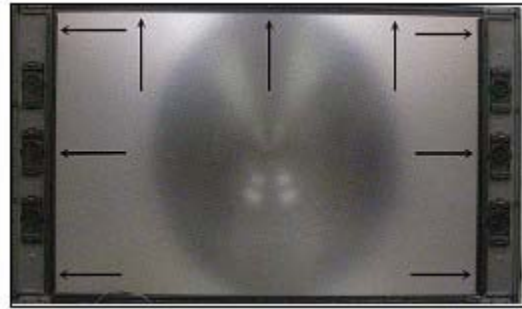

Figure 11
Step 4 – Remove the nine screws holding three screen brackets from the **Mask**, and carefully lift out the **Screen Assembly**. See figure 11.